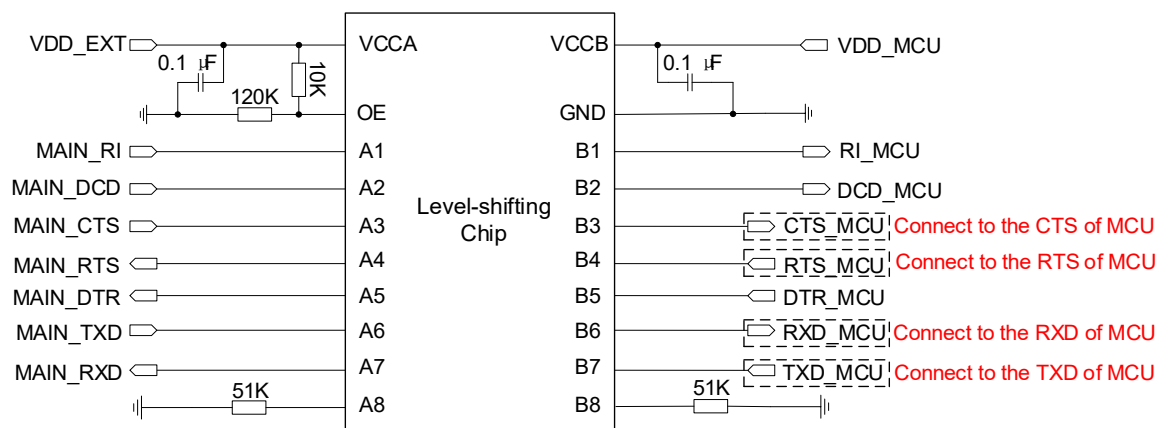
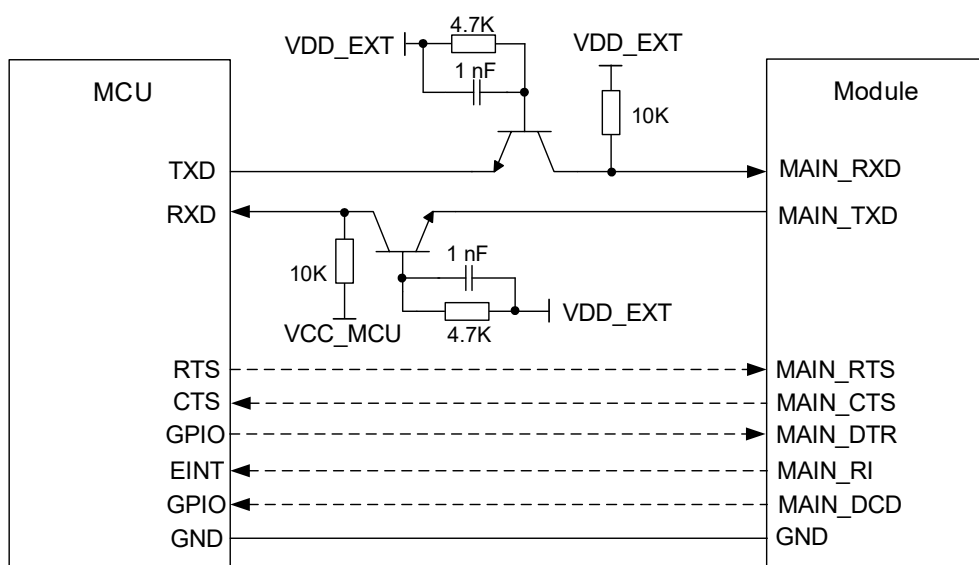

Figure 27: Reference Circuit with A Level-shifting Chip (Main UART)
Figure 28: Reference Circuit with Transistor Circuit (Main UART)
3. The level-shifting circuits (**Figure 27** and **Figure 28**) take the main UART as an example. The circuits of the auxiliary UART are connected in the same way as the main UART.